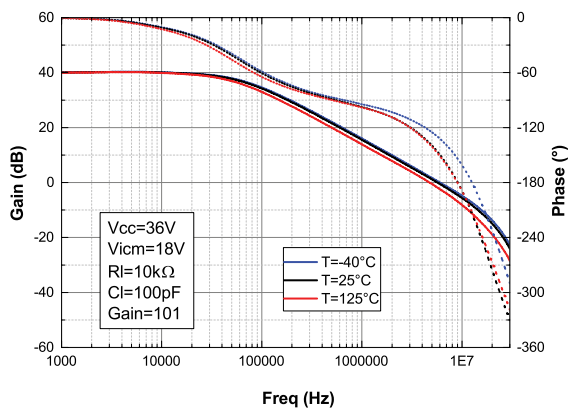
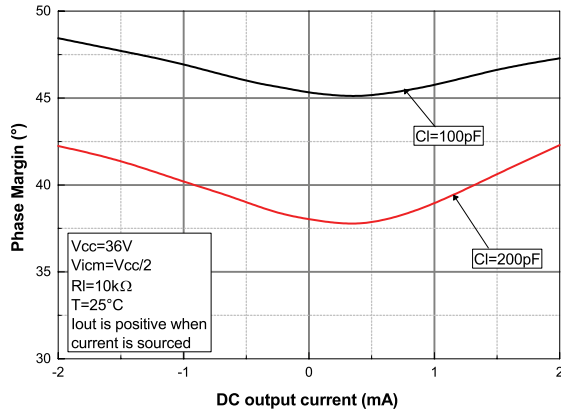

Figure 25. Phase margin vs. output current at $V_{CC} = 5\text{ V}$
Figure 27. Phase margin vs. capacitive load
4. For higher capacitive values see Figure 25. Phase margin vs. output current at $V_{CC} = 5\text{ V}$, Figure 27. Phase margin vs. capacitive load